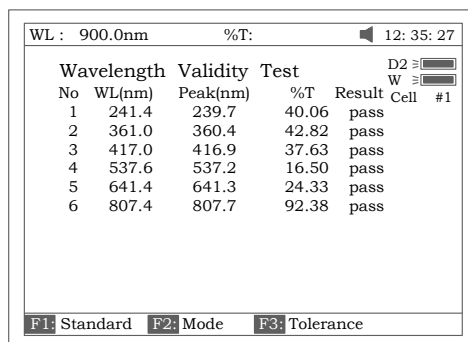

Fig 99
- Put the sample (calibrated holmium liquid) into Main Light Path. Press **【START】** to check. The results will be displayed on the screen (Fig 99). If the discrepancy between the results and the calibrated values is not more than the tolerance, “pass” will be displayed after the test results. Otherwise, “fail” will be displayed.